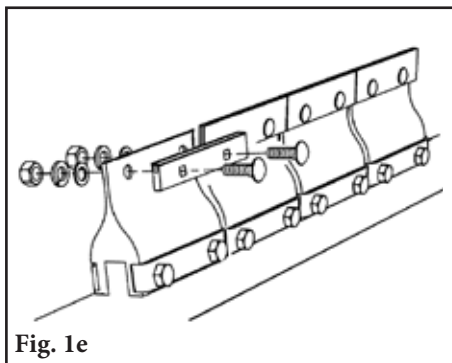

Fig. 1e
For structure mounting: In most applications the standard mounting brackets will have adequate room to fit on the structure with no cutting. Clamp the mounting bracket into position (use 150mm clamps). Move the clamp block to align the center of the block with a point 175mm below the belt (Fig. 1e). To move the clamp blocks, if necessary, loosen the clamp block lock bolts and the adjusting bracket lock bolt and position. Tighten the adjusting bracket lock bolt. The bracket can now be bolted or welded in place. Locate and install bracket on the opposite side of belt in alignment with the first bracket. **NOTE:** The brackets must be aligned perpendicular to the belt.
- e. Remove the nuts, flat washers and lock washers from the tips and remove worn tips (Fig. 1e).